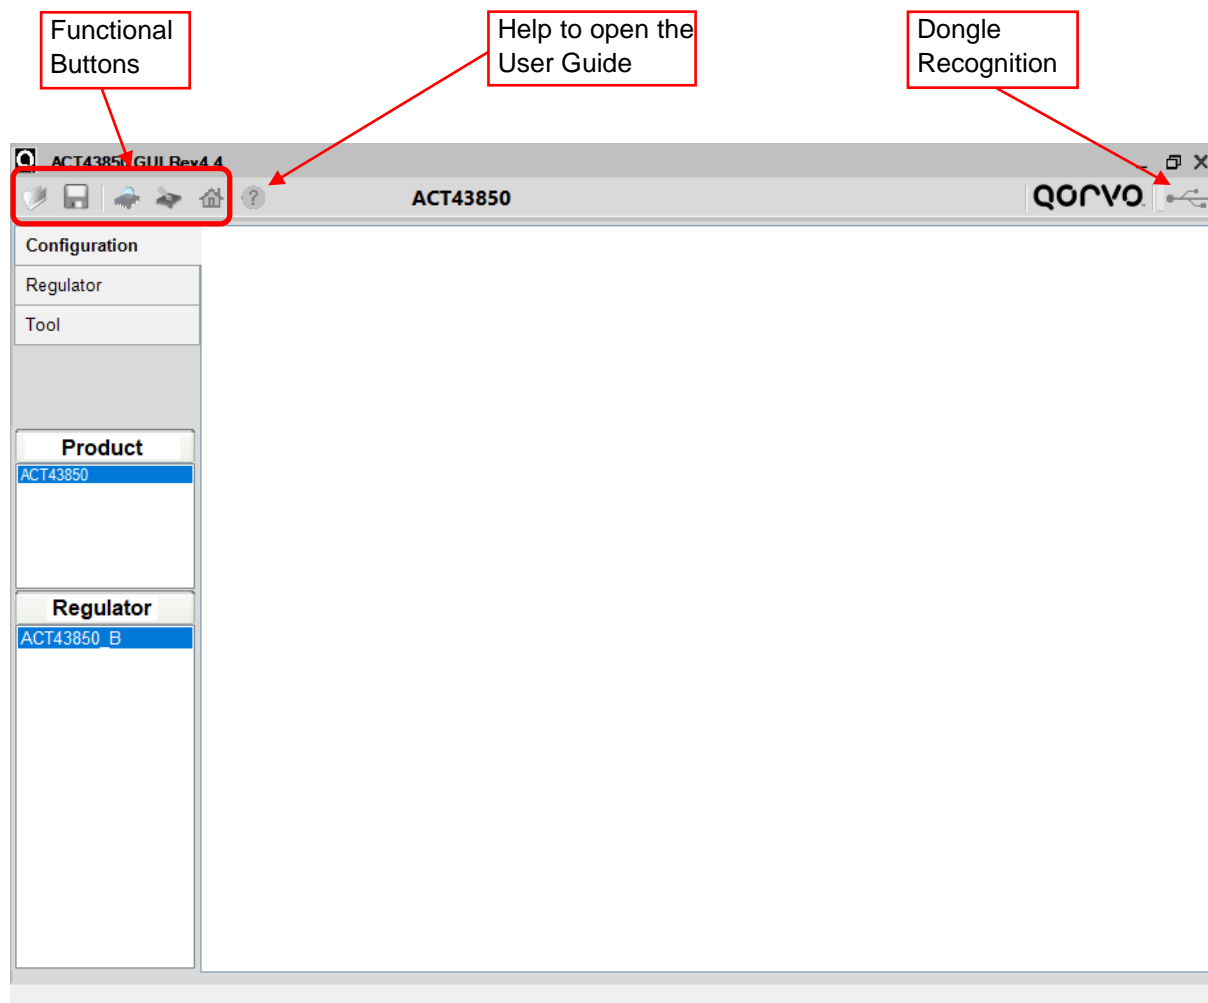

Figure 2: GUI in Configuration Mode
3. Double click the "ACT43850 GUI Rev4.x.exe" to Open the GUI. The GUI starts up in the Configuration mode as shown in **Figure 2** below. The "dongle recognition" icon shows up to let user the dongle is ready to use.
Figure 2 above shows the GUI's 4 functional buttons as icons on the top left corner. Moving from left to right, these are: Open, Save, Read and Write.